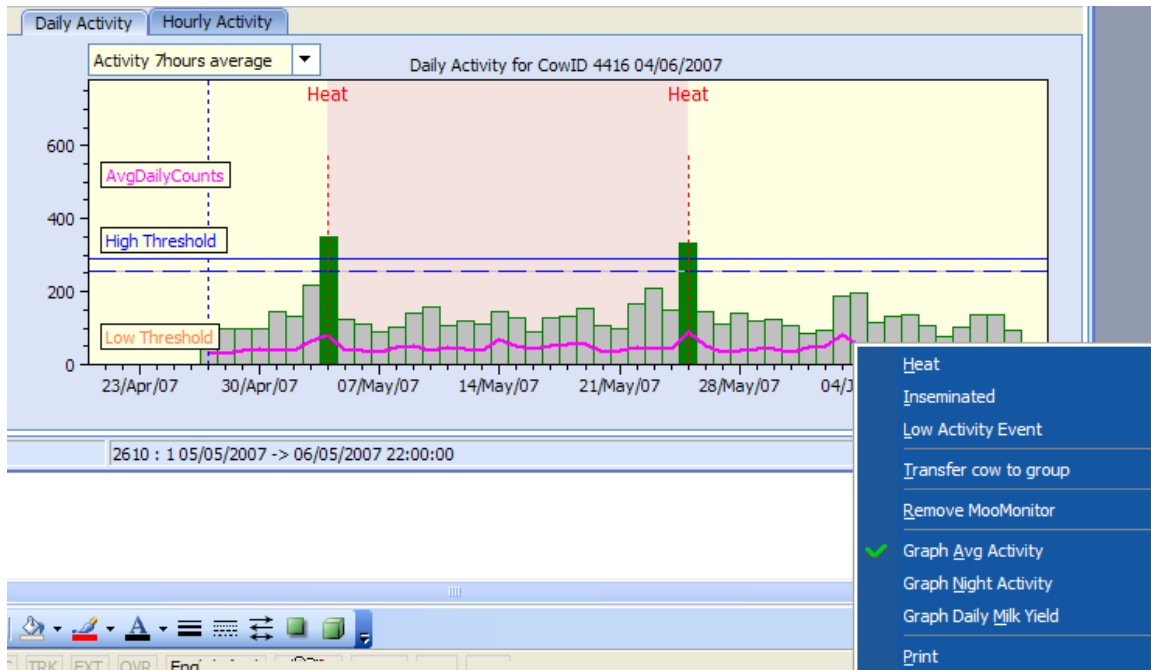

Figure 22 Right Click options.
- b. The options show in Figure 22 on the next page will appear.
- h. Repeat steps a – f for the 'Inseminated', 'Low Activity Vet Events' and 'Calved' options in Figure 22 on the previous page.